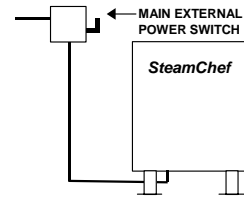

Figure 3-1
3. Refer to Figure 3-1 and turn on electric power to the SteamChef at the Main External Power Switch.